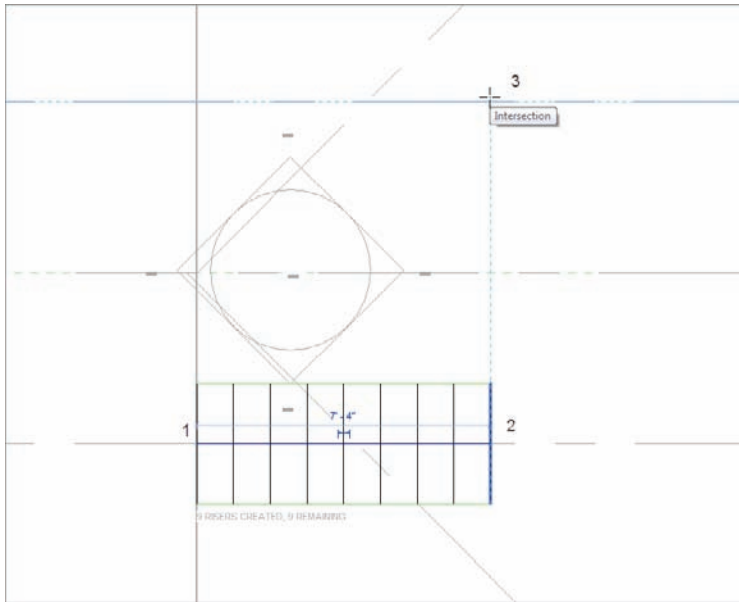

FIGURE 10.4 Adding the L shape to the stairs
9. Pick the intersection of the floor edge and grid 3.1 for the first point of the stairs. This spot is labeled 1 in Figure 10.4.
11. When you see that nine risers have been created, with nine risers remaining, pick the spot labeled 2 in Figure 10.4.
12. Move your cursor straight up (north) until you get to the grid intersection labeled 3 in Figure 10.4. When you see this, pick the third point.